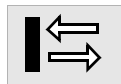

Figure 10 The Inputs/Outputs application key, both versions.
1. Press the **Inputs/Outputs** window key (see Figure 10.)